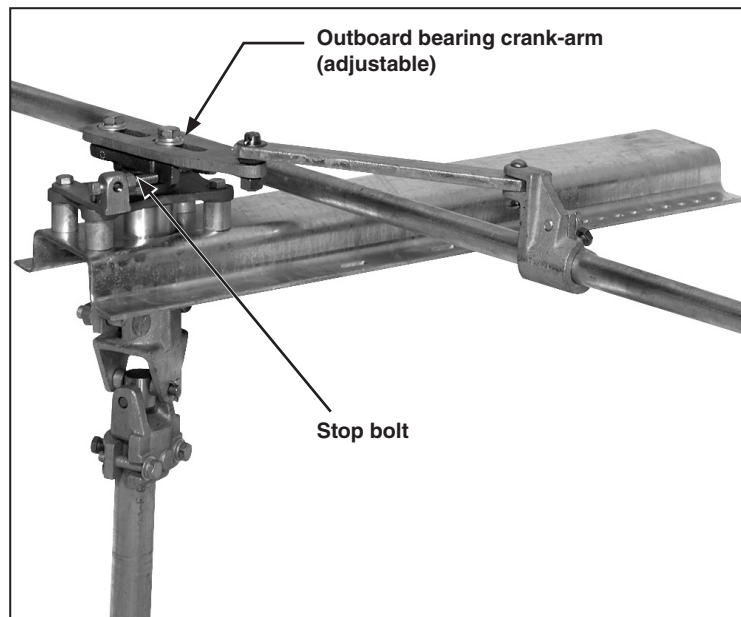

Figure 37. Verify the crank-arm is in the over-center toggle position and against the stop bolt.
- (b) Each switch-pole operating lever should lie against its closed stop. The outboard bearing crank-arm(s) should be in the overtoggle position and lie against the stop bolt(s), if applicable. See Figure 37.